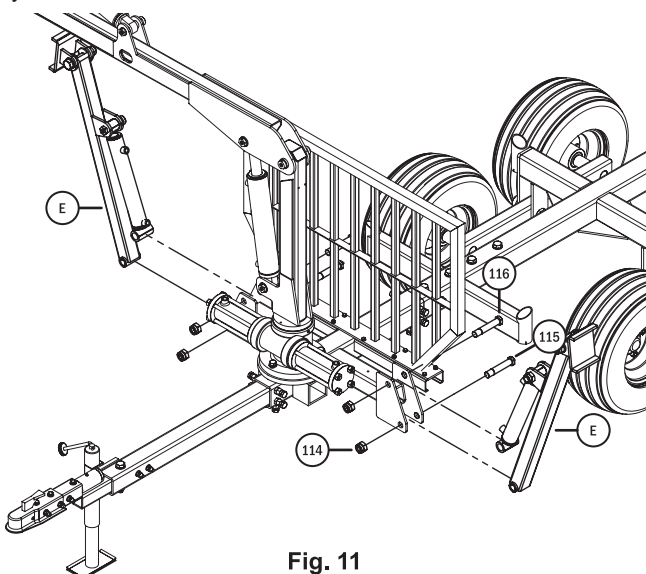

Fig. 11
**Step 14: Install the Stabilizer Support Legs.** Install one Stabilizer Support Leg (E, **Fig. 11**) by removing the lower Pivot Pin (115) and Nut (114), align the holes between the leg and Stabilizer Frame Base and insert the Pivot Pin (115). Because the Stabilizer Support Leg requires free movement, the Nut (114) need only be tightened until it bottoms out on the Pivot Pin (115). Let the Stabilizer Support Leg (E) rest on the ground. The upper Pivot Pin (116) should be installed later, after the hydraulic hoses are connected, to prevent oil from leaking from the cylinder.
**Step 19: Install the Upper Pivot Pin on the Stabilizer Support Legs.** The upper Pivot Pin (116) in STEP 14, Fig. 11 can be installed at this time. Remove the Nut (114) from the Pivot Pin (116), align the hole on the cylinder to the hole on the Stabilizer Frame Base, then install the Pivot Pin (116) and Nut (114). Because the Stabilizer Support Leg requires free movement, the Nut (114) need only be tightened until it bottoms out on the Pivot Pin (116).
**Step 20: Add Oil to the Hydraulic System.** The hydraulic system requires approximately 13L (13.5 Quarts) of ISO 32 (10W) clean and unused hydraulic fluid. Use a funnel to add the oil to the hydraulic tank through the filler cap (89).